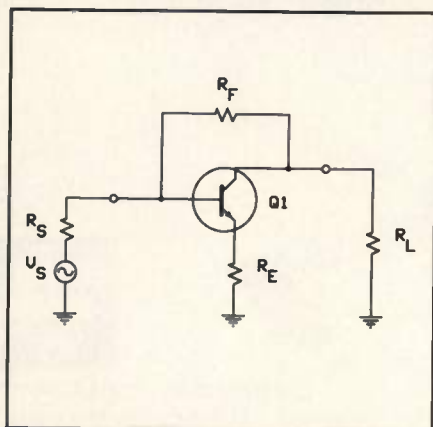

Figure 1. Amplifier A.
Amplifier A (1) — This amplifier (Figure 1) uses resistive parallel and series